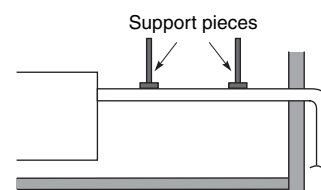

Fig. 3-96
- Do not apply force to the piping on the unit side when connecting the drain pipe. The pipe should not be allowed to hang unsupported from its connection to the unit. Fasten the pipe to a wall, frame, or other support as close to the unit as possible. (Fig. 3-96)